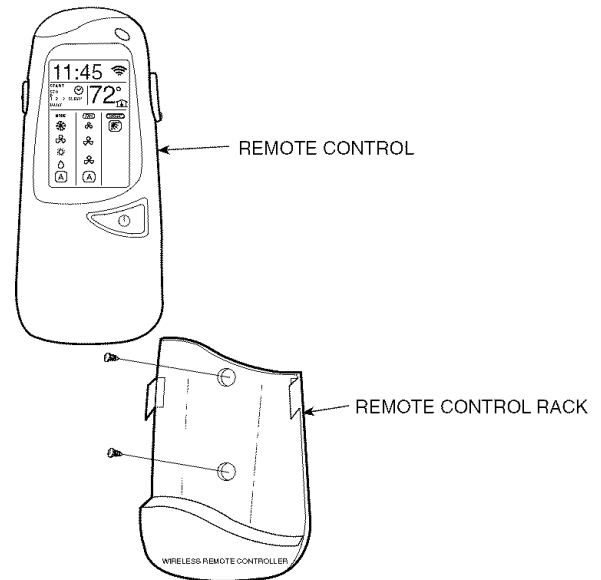

Fig. 10 — Attach Rack to the Wall
1. Use the two screws supplied to attach the rack to the wall in the location selected by the customer (see Fig. 10).